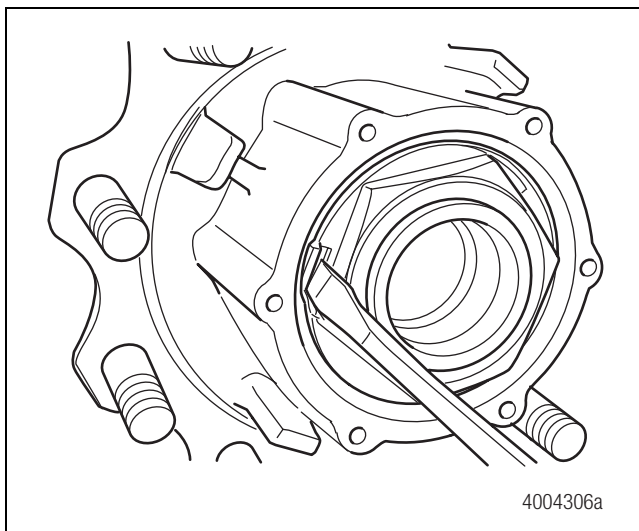

Figure 4.13
- Use a small chisel or screwdriver to lever back the retaining washer flange from where it was staked at one of the spindle nut slots. The retaining washer flange must be completely clear of the spindle nut flange. Figure 4.13.